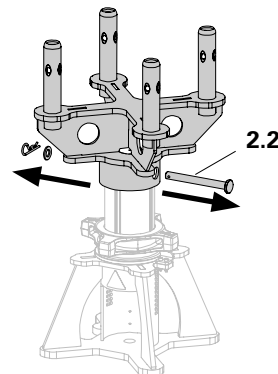

Fig. A1.02b
3. Remove Connecting Bolts (2.2). Connecting Plate slides downwards and the spherical piece (2.1) is positioned on the Spindle Tube. (Fig. A1.02b)